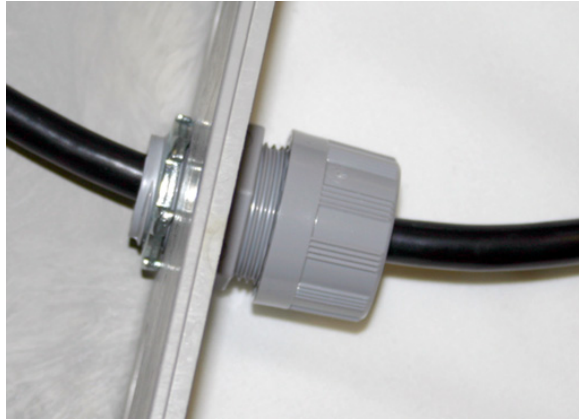

Figure 2-11 Position and secure the cable
7. Tighten the cord grip sealing nut (Figure 2-11).